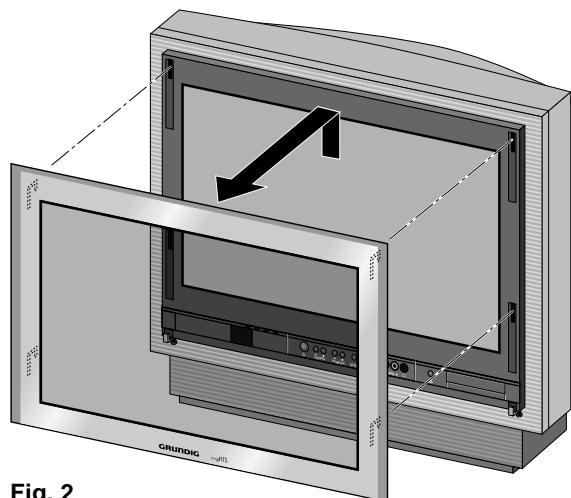

Fig. 2
- Slide up the glass pane and remove it toward the front. (Fig. 2).